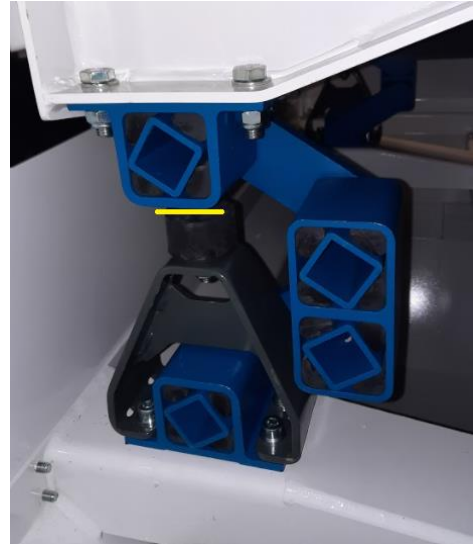

Figure 11. Shakers
PLEASE NOTE! Ensure that the vibration frame is clear of the buffer limit stop. This is indicated by the yellow line in Figure 11. Ensure that the clearance is 6 - 8 mm when the screen bed is unladen. This ensures unimpeded movement of the screen bed and prevents damage.
Depending on the quantity of product and operating hours, the new shaker will settle; the shaker is the blue part in Figure 11. Settlement will be just a few millimetres. If using a new shaker, check this on a weekly basis over a period of six months. If the clearance is less than the 6 mm, you can proceed as follows:
1. Loosen the black round buffer and remove the nut (Figure 11).